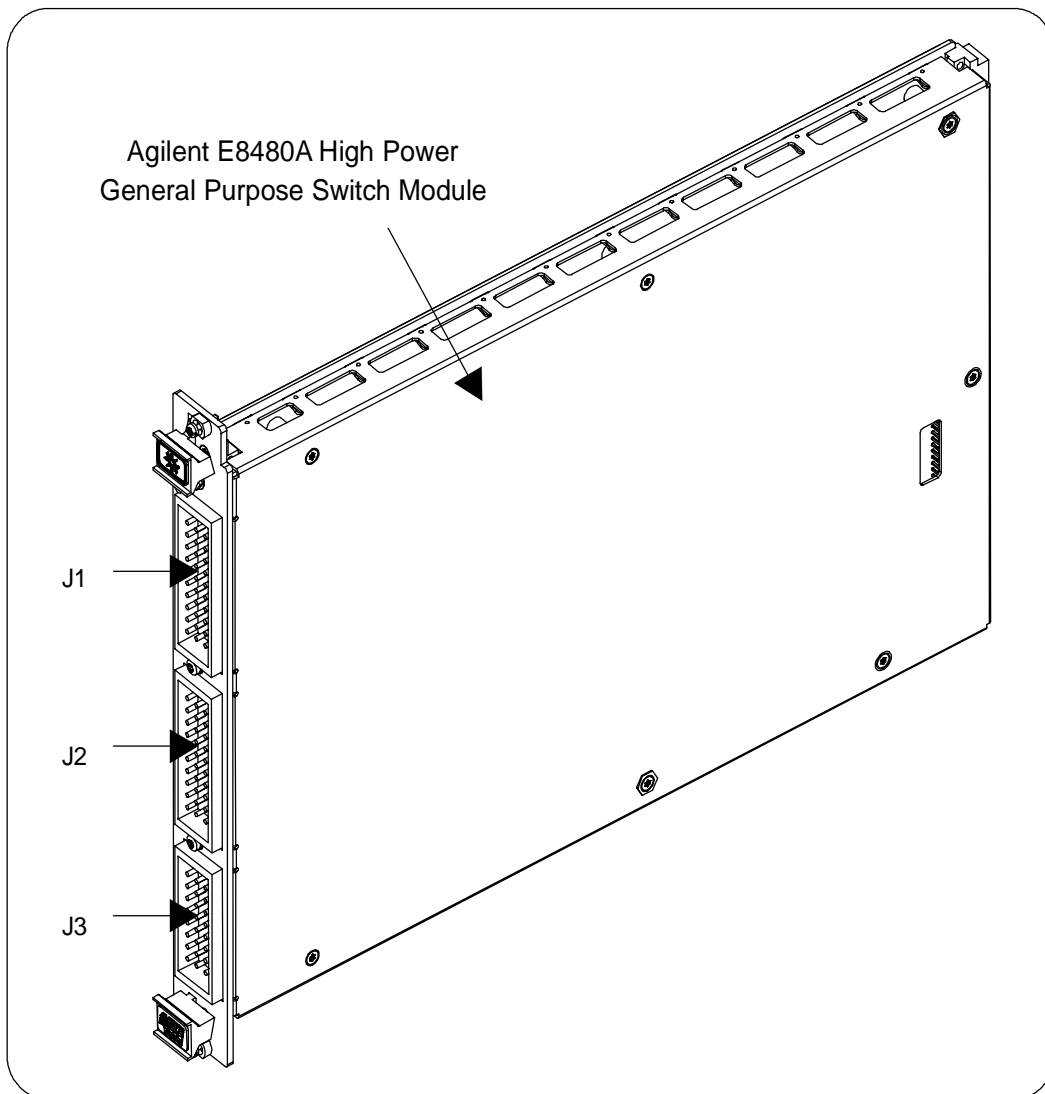

Figure 1-1. Agilent E8480A High Power General Purpose Switch Module
This manual contains information required to test, troubleshoot, and repair the Agilent E8480A High Power General Purpose Switch module (see Figure 1-1). For more information on the switch module operation, see *Agilent E8480A High Power General Purpose Switch Module User's Manual*.
2. Check the shipping contents and verify they are complete. Normally, the module you ordered (see Figure 1-1) and a User's Manual should be included. If the contents are incomplete or with mechanical damage/defect, contact Agilent Technologies (see page 10).